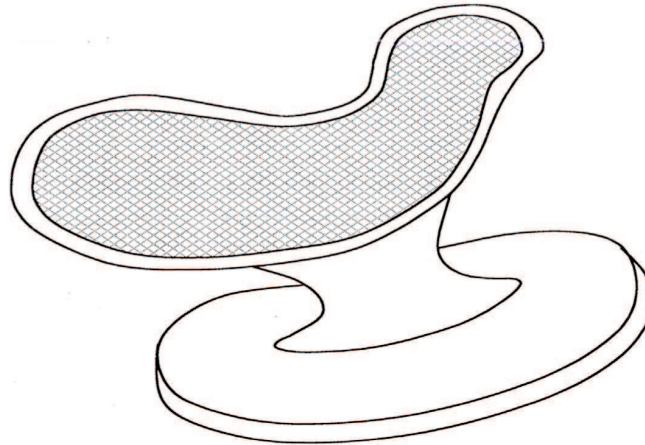

Figure 5
- (b) **Figure 5** shows a curved shallow sugar dish.